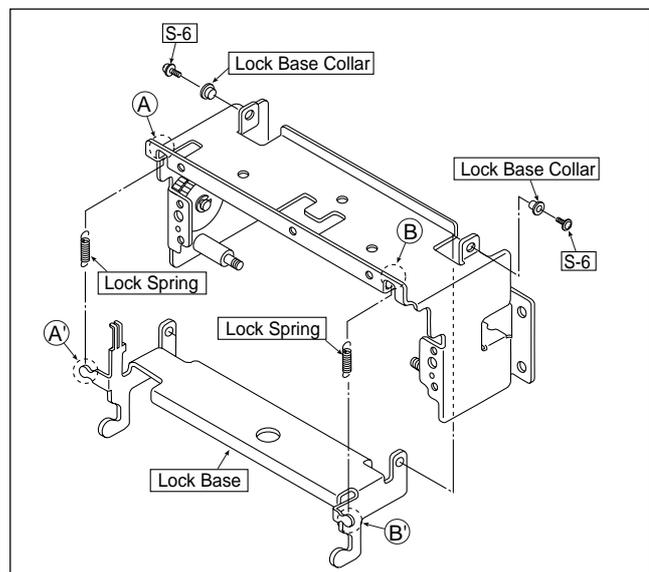

Fig. 16
14) Remove the Lock Base. (See Figure 16.)
1. Remove the "S-6" screws as shown in Figure 16. (Tightening torque :  $8 \pm 2.4 \text{kgfcm}$ )
2. Remove the Lock Spring is fixed to the A ~ A', B ~ B' as shown in Figure 16.